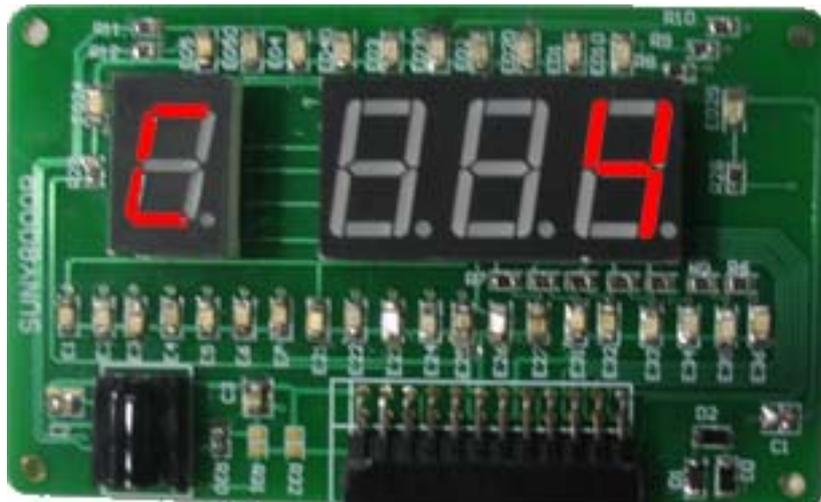

Fig. 5
- Press [RE] button, panel shows as Fig.5.